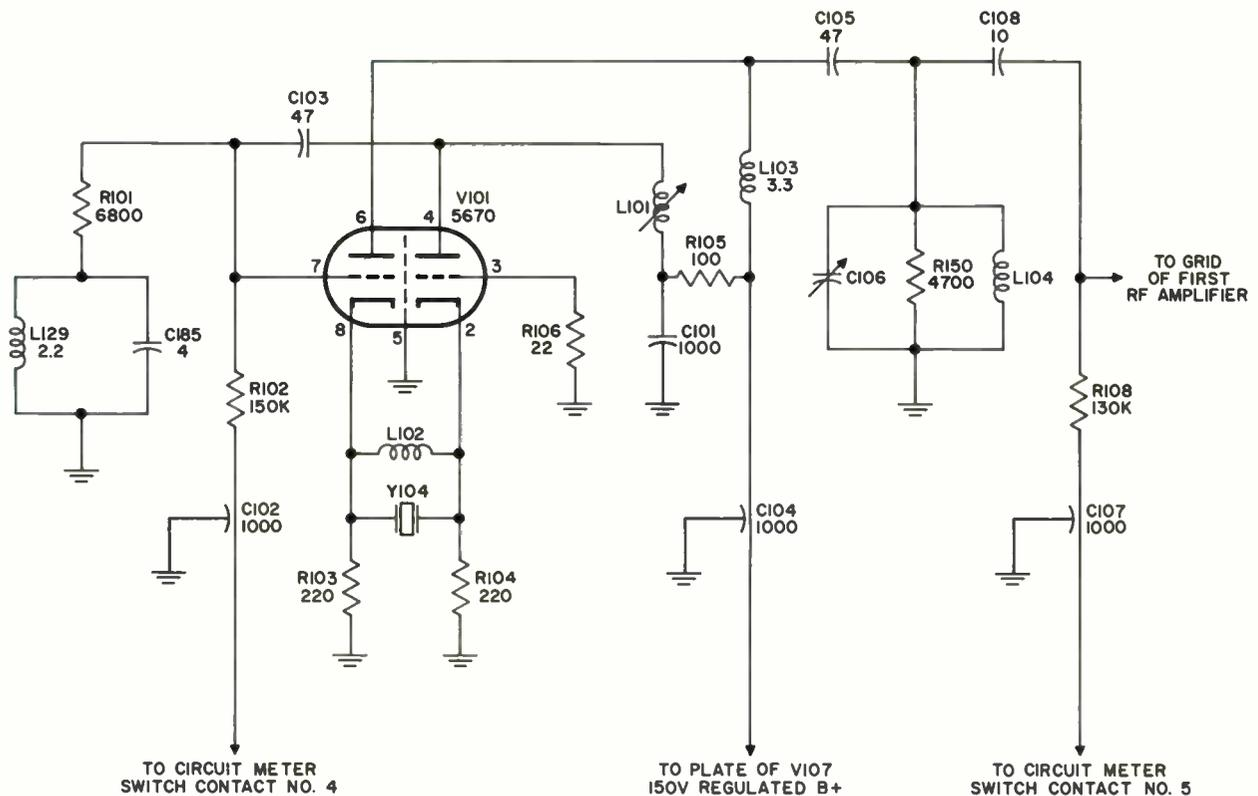

Figure 4-2. Oscillator-Frequency Doubler
4.3.1.1 OSCILLATOR FREQUENCY DOUBLER. Figure 4-2 shows the frequency-generating stage of the r-f unit. The output frequency of this cathode-coupled, overtone-type oscillator is equal to the second harmonic of the overtone crystal used. The oscillator tube, V101, is a type 5670 dual triode with a grounded shield element, pin 5.